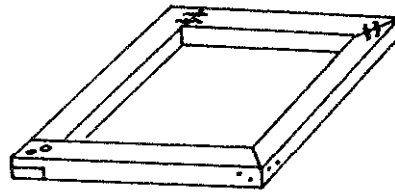

FIGURE 1. MAKING THE FRAME OF THE SILK SCREEN. DIFFERENT JOINT CONSTRUCTIONS ARE SHOWN AT EACH CORNER; ANY ONE OF THESE MAY BE USED FOR THE JOINTS OF THE FRAME.
1. Build a frame (see Figures 1 and 2), using **1.9cm x 5cm (3/4" x 2")** plywood or other wood. The frame should be big **enough** for the largest prints to be made. Average inside frame dimensions would be **38.1cm x 50.8cm (18" x 24")**. Make sure that the corners are square and the frame lies flat against a flat baseboard or table top. The baseboard can also be made of **1.9cm (3/4")** plywood. A few coats of shellac on the wooden frame will make it longer lasting and less apt to warp.